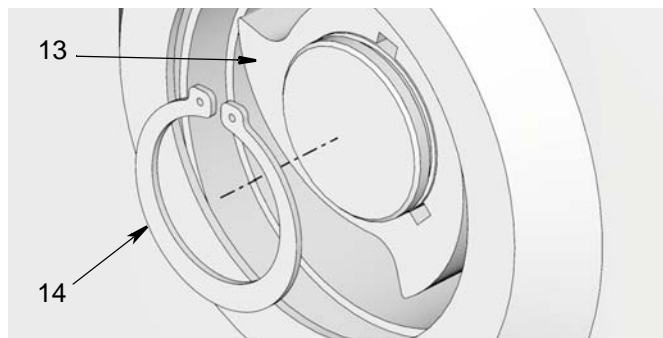

FIG. 12
- c. Remove the spring canister (10) from the spool. If you are not replacing the canister, lift canister slightly to clear hub (13) and set canister aside for reassembly. If you are replacing the spring canister, discard canister.
- d. Use a snap ring pliers to remove snap ring (14) (FIG. 12).
- e. Remove hub (13) and key (12) (FIG. 12).